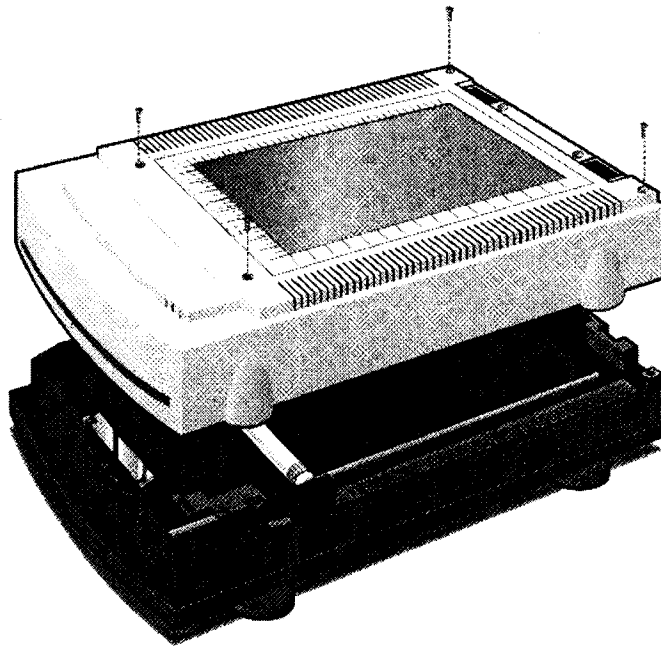

Fig. 5.2
8. Remove the 4 top screws as indicated in Figure 5.2.
9. Remove the housing of the densitometer as shown in Figure 5.2.